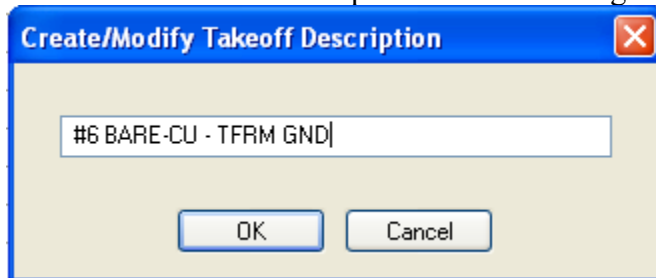

Figure 21
35. Edit the Takeoff Description as shown in Figure 21 and click OK.